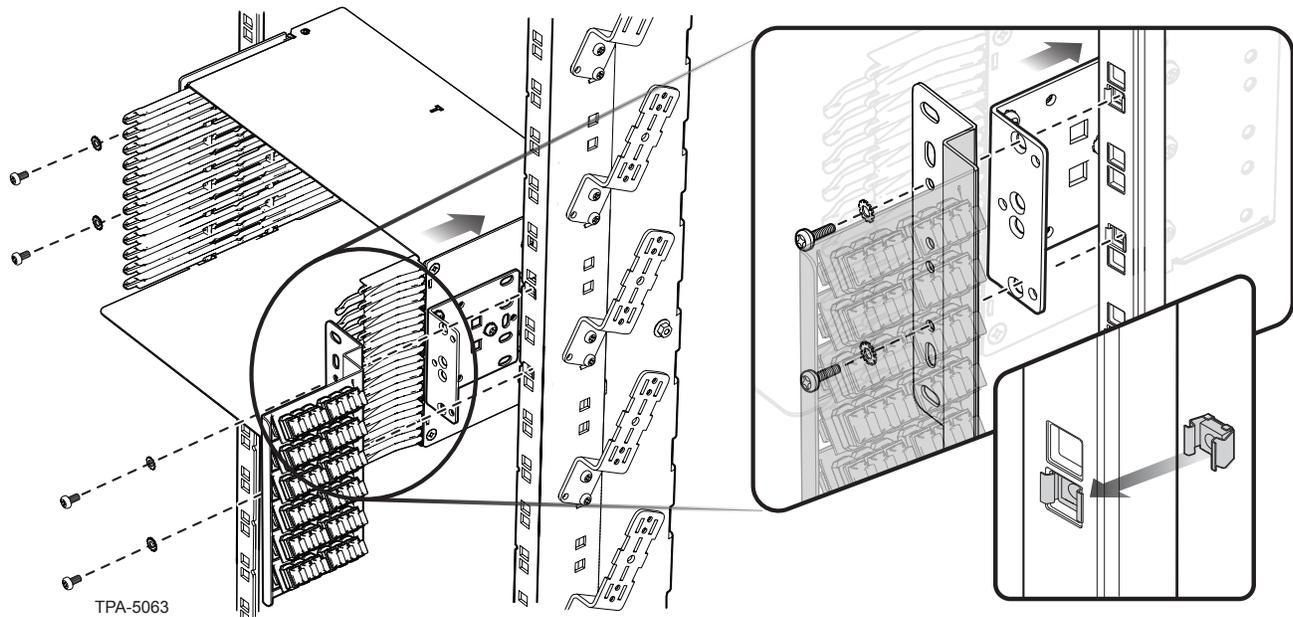

Figure 8
- Step 2:** Position the adapter bracket kit with the holes aligned with the holes in the housing mounting brackets as shown in Figure 8. Secure both the housing and the adapter bracket to the frame at the same time using the screws and cage nuts provided.